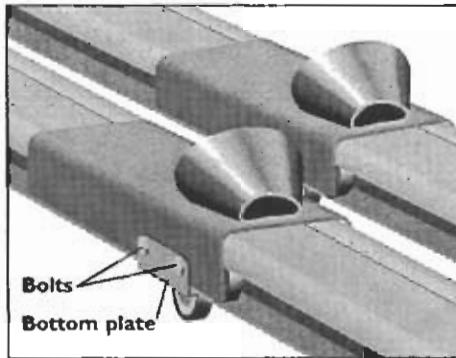

Figure 3
4. Use a 7/16-inch socket or wrench to remove the bolts on the sides of the foot glide (Figure 3).
2. Place the bottom plate, with the slot toward the front of the exerciser, under the side rail so the holes in the plate align with the holes in the top half of the foot glide (Figure 3).